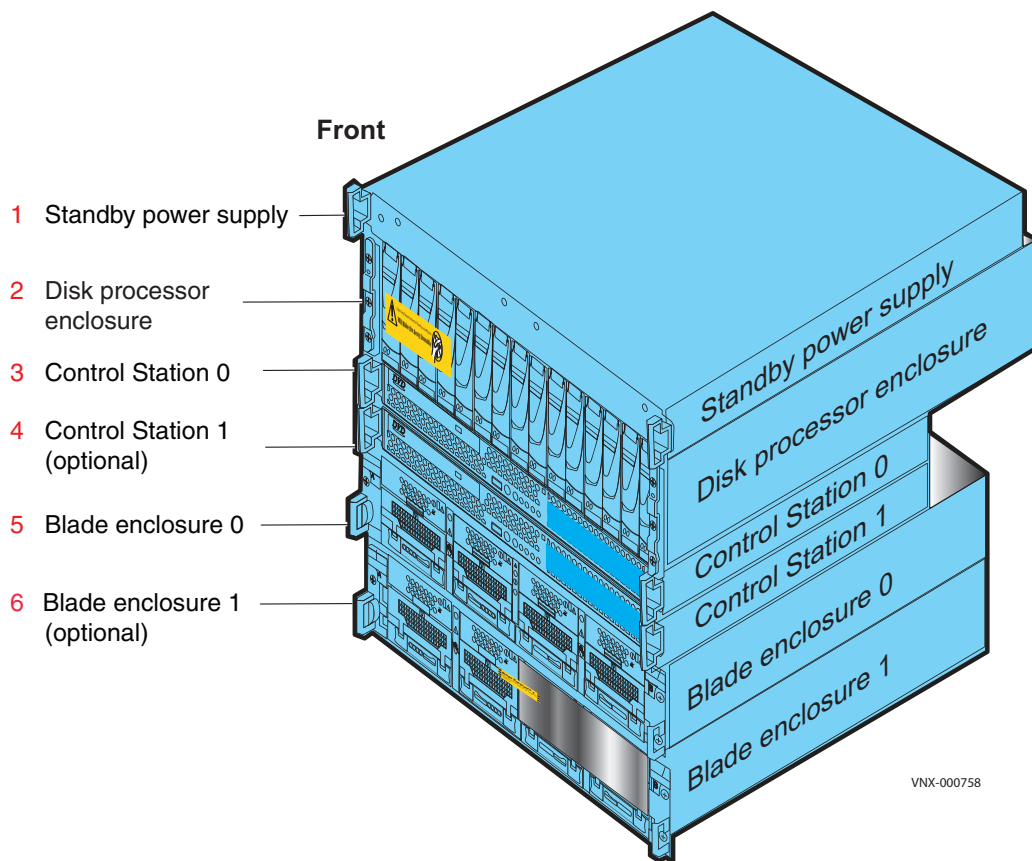

Figure 2 Removed mini-rack components
- Starting from the top of the mini-rack, carefully slide the components out of the mini-rack and stack them in the reverse order of how they will be placed in your cabinet as shown in Figure 2. Be sure to place the first removed component on an antistatic floor or workbench pads.